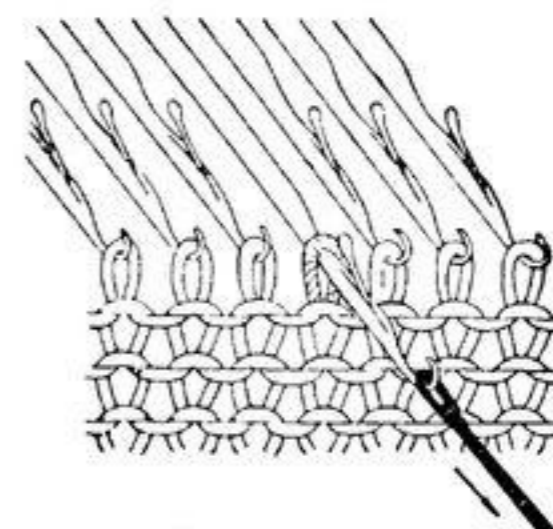

Fig. 35-2
2. Draw the needle towards you with the Tool until the stitch passes behind the latch. (Fig. 35-2)